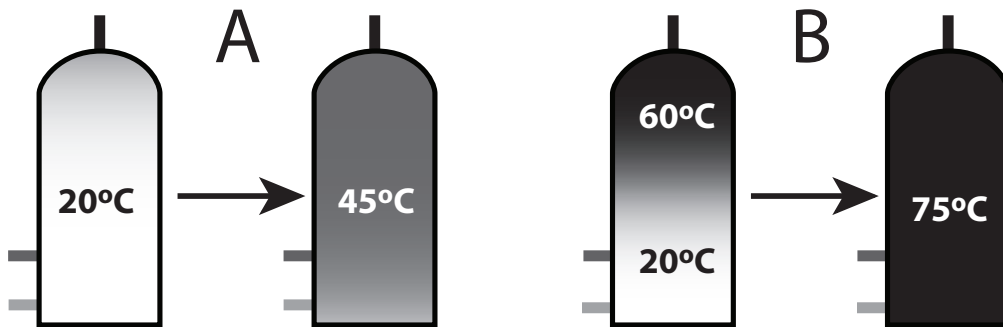

Fig. 5
Figure 5 shows the comparison between (A) solar heating a tank full of cold water (after lots of showers), or (B) a tank after a couple of showers. The same amount of solar input results in very different final temperatures. This is important to understand when considering the expected performance from your solar water heating system.